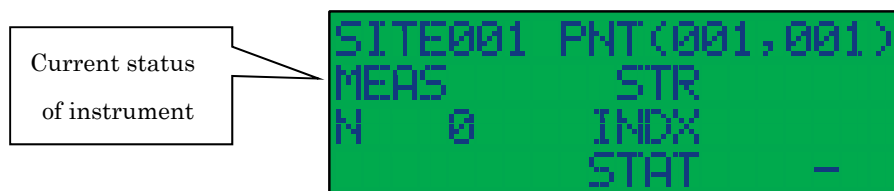

Fig.6-5 Waiting-For-Measurement Screen
- When selecting the arbitrary coordinate number that the measured data does not exist and then pressing **D** button, it becomes a waiting-for-measurement screen as shown in Fig.6-5.
- When screen becomes a state of waiting-for-measurement, the display will change from LOOKUP mode (Fig.6-4) to MEAS mode (Fig.6-5). In this state you can start hammering.